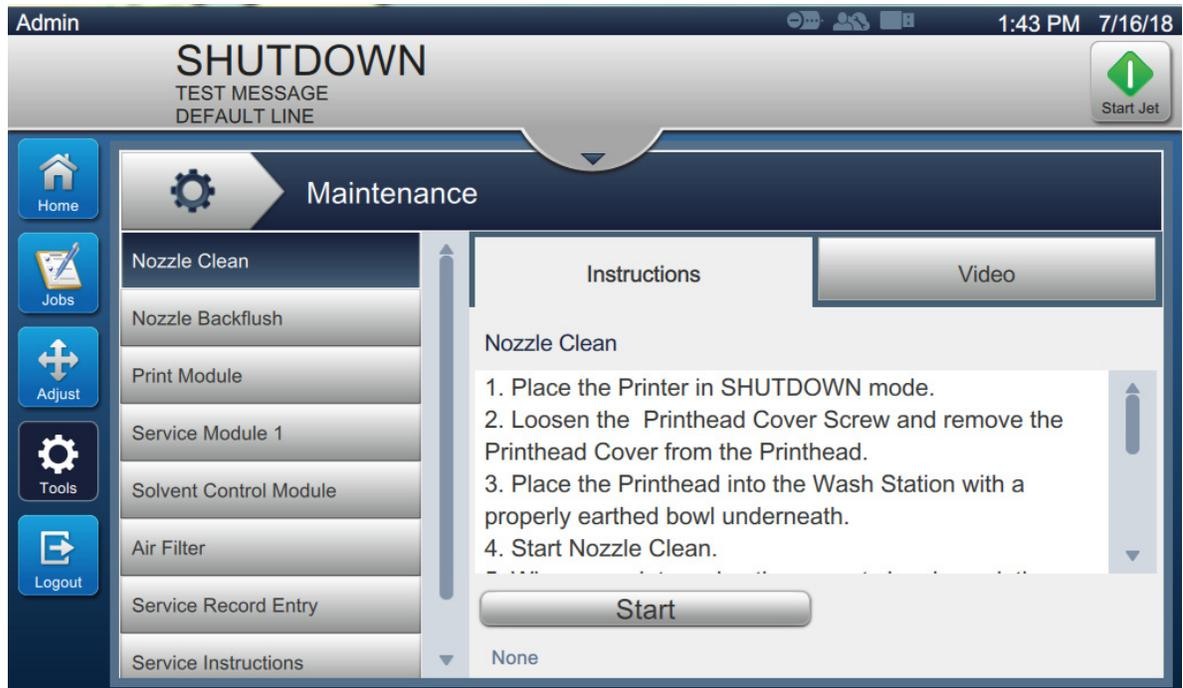

Figure 8-1: Maintenance Screen
1. Touch the  button. The Maintenance screen is displayed as shown in Figure 8-1.